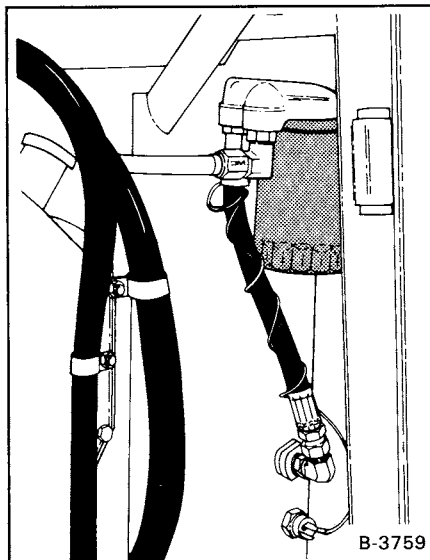

Fig. 76 Filter Location
2. Remove the filter element (Fig. 76 or 77) with a filter wrench.